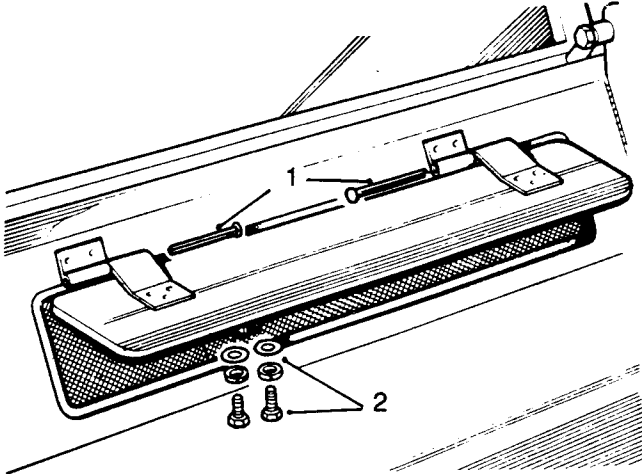

Fig N3.12
- (1) Refer to Fig N3.12. Remove the hinge pins (1) and grille panel.
- (2) Remove the control lever fixings (2).